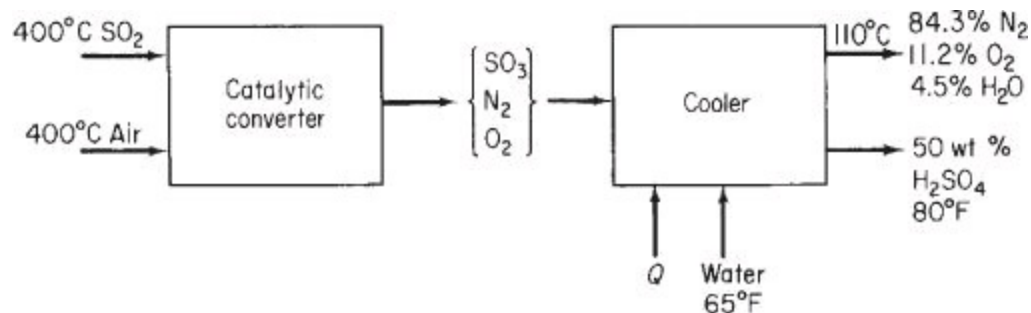

Figure SAT13.2P2
2. Calculate the heat that must be added or removed per ton of 50 wt % H₂SO₄ produced by the process shown in Figure SAT13.2P2.